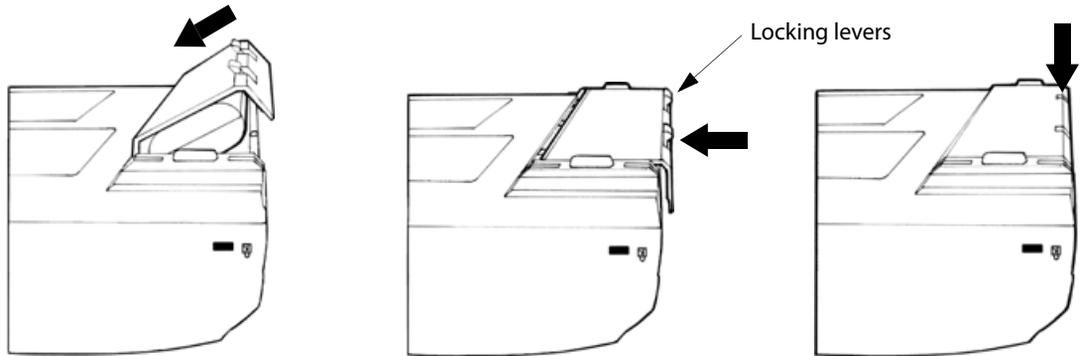

Figure 1 Insert Battery into System
- 2 Place the battery into the battery compartment, at a slight angle. See Figure 1.
- 2 Insert the CompactFlash card into the front slot on the ultrasound system. See Figure 1 on page 3.
- 2 Press the ejector pin in the front card slot to position it to the outside of the system. See Figure 1 on page 3.